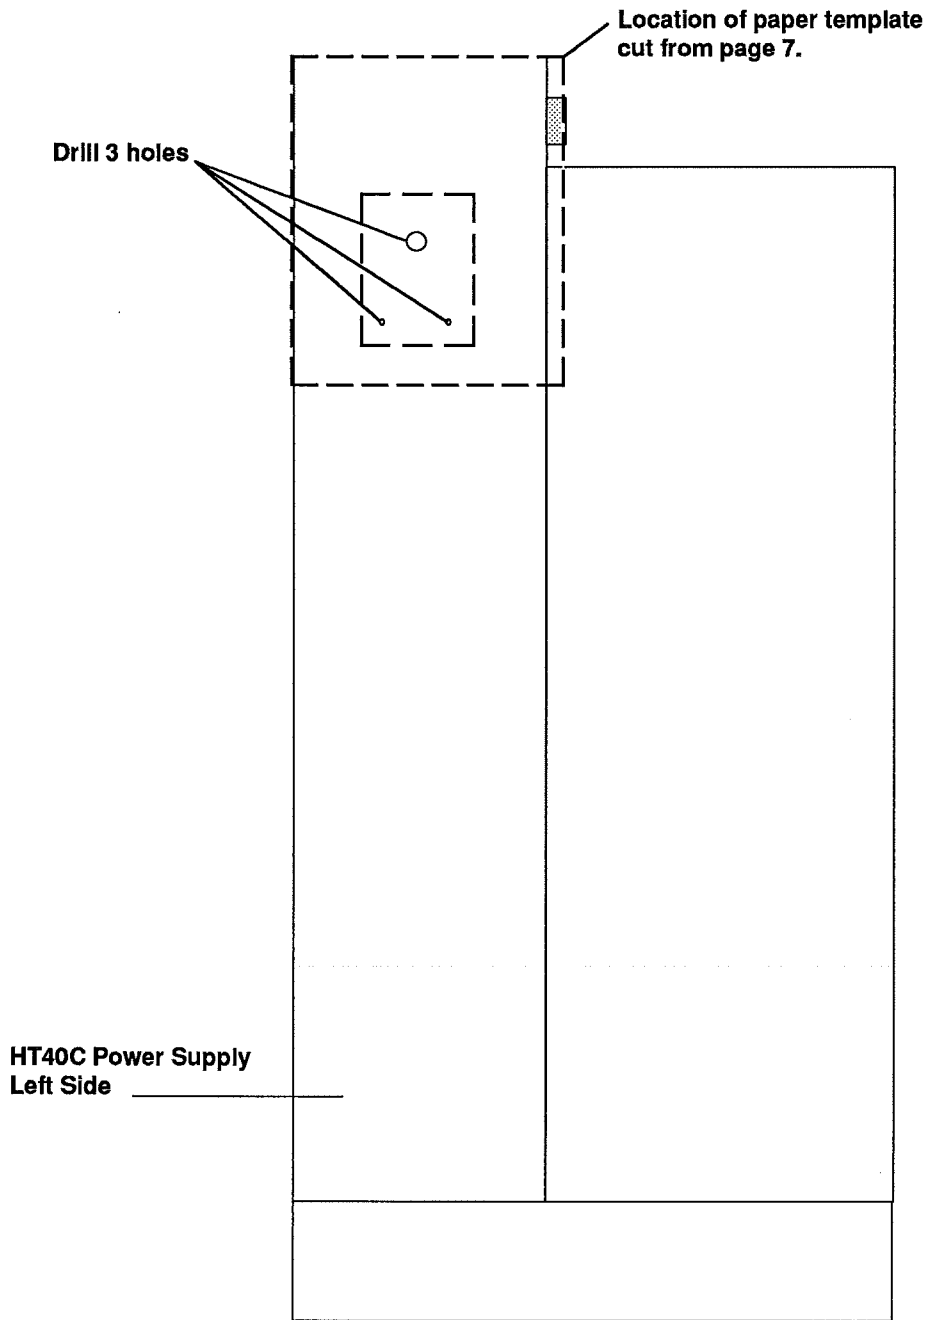

Figure 1 - Location of Template for Hole Drilling
To install the insulation cutting option on your HT40C, refer to Figures 1 and 2, and proceed as follows:
4. Take the template and align to left side of HT40C power supply as shown in Figure 1. Make marks with a pencil through the 3 holes on to the power supply.
See Figure 1 for approximate location of template.